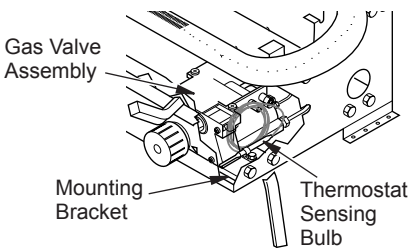

Figure 38 - Location of Gas Valve Assembly and Thermostat Sensing Bulb
1. Remove logs. Locate the gas valve assembly and thermostat sensing bulb (see Figure 38).